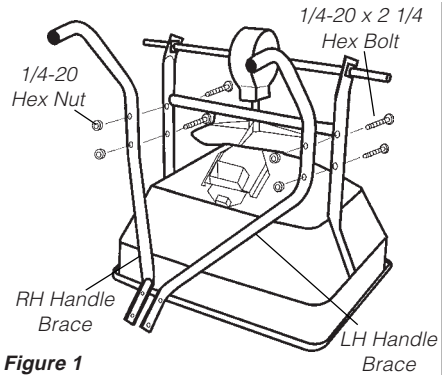

Figure 1
1. Remove the spreader and components from the carton and place the spreader upside down on a padded surface. Install the LH & RH handle braces to frame using four 1/4-20 x 2 1/4" hex bolts and nuts. Do not tighten at this time. See Figure 1.